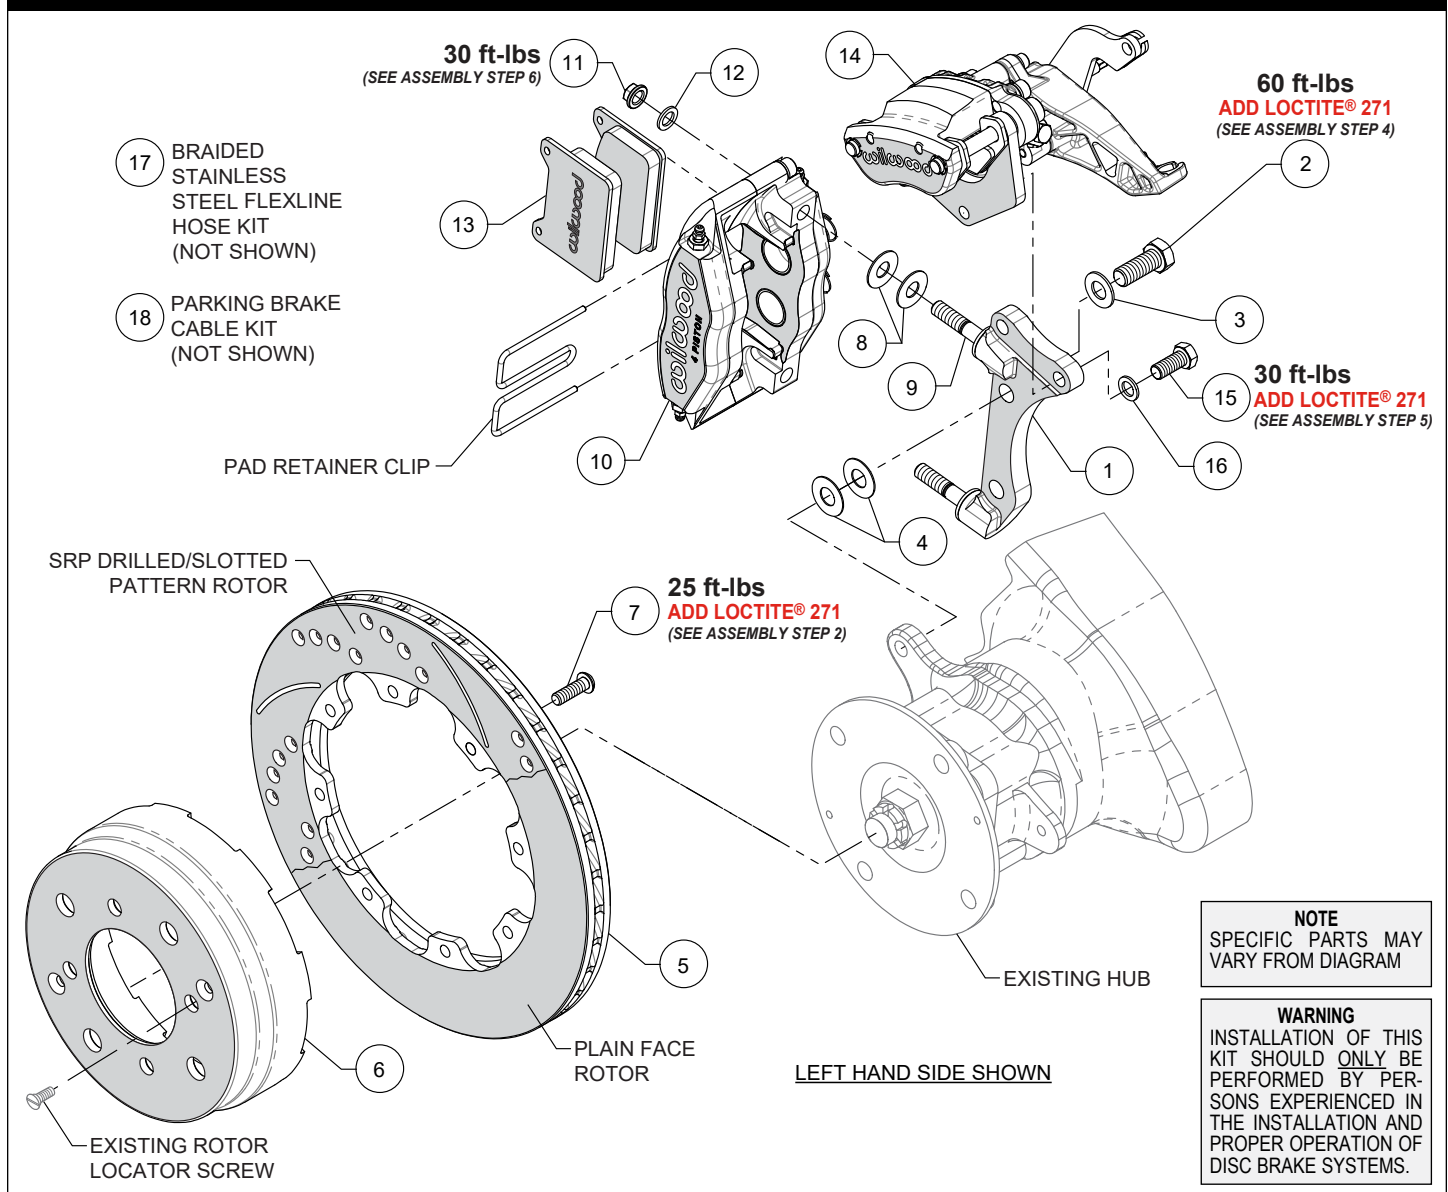

Figure 1. Typical Installation Configuration
**NOTE:** Numbers in parenthesis refer to the parts list and Figure 1 on the preceding pages.
**STEP 1** The caliper mount bracket (1) should initially be installed with clean, dry threads on the mounting bolts. Orient the bracket, as shown in Figure 1 and Photo 1, and install using bolts (2) and washers (3). Initially place two .033" thick shims (4) on each bolt between the bracket (1) and caliper mounting bosses of hub assembly, Figure 1. Temporarily tighten the mounting bolts. **NOTE:** The bracket must fit squarely against the mount bosses on the hub assembly. Inspect for interference from casting irregularities, machining ridges, burrs, etc. Later, after the caliper alignment has been checked, the mount bolts will be secured using red Loctite® 271.
**STEP 2** Orient the rotor (5) and the hat (6) as shown in Figure 1 and Photo 2. Attach rotor to hat using bolts (7). Apply red Loctite® 271 to the bolt threads and torque to value shown in Figure 1 using a criss-cross pattern.
**STEP 3** Slide the hat/rotor assembly onto the axle hub, Photo 3. **NOTE:** The hat must fit flush against the axle hub flange or excessive rotor run out may result. Install the hat locater screw (OEM), as shown in Figure 1, to keep the hat/rotor assembly in place while continuing with the installation.
**STEP 4** Initially place two .035" thick shims (8) on each stud (9) between the caliper (10) and the bracket (1), as shown in Figure 1 and Photo 4. Mount the caliper (10) onto the bracket (1) using lock nuts (11) and washers (12), Figure 1. Temporarily tighten the lock nuts. View the rotor through the top opening of the caliper. The rotor should be centered in the caliper, Photo 5. If not, adjust by adding or subtracting shims (4) between the bracket and the mounting bosses
of hub assembly. Always use the same amount of shims on each of the two mounting bolts. Once the caliper alignment is correct, remove the bracket mounting bolts (2) one at a time, apply red *Loctite*® 271 to the threads, and torque to value shown in Figure 1.
**STEP 5 NOTE:** For better accessibility to parking brake caliper mounting bolts (15), remove caliper (10) and proceed with the following. Mount the parking brake caliper (14) to bracket (1) using bolts (15) and washers (16) as shown in Figure 1 and Photo 6. Apply red *Loctite*® 271 to the bolt threads (15), and torque to value shown in Figure 1.
**STEP 6** Reinstall caliper (10) ensuring shims (8) from Step 4 are still in place. Remove the caliper pad retainer clip from the caliper. Insert the brake pads (13) into the caliper, with the friction material facing the rotor, Photo 8. Check that the top of the brake pad is flush with the outside diameter of the rotor. If not, adjust by adding or subtracting shims (8) on the stud (9) between the caliper (10) and the caliper mount bracket (1). After the caliper pad height is set, torque the caliper lock nuts (11) to value shown in Figure 1. Secure the brake pads in place with the pad retainer clip, Photo 9.